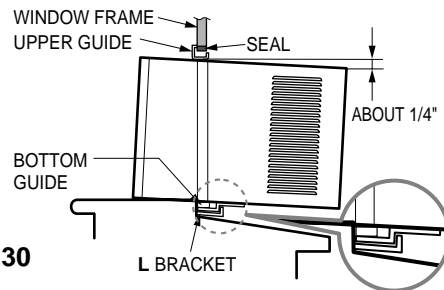

Figure 30
- b. While steadying the air conditioner, carefully bring the window sash down behind the upper guide of the air conditioner, as shown in Fig. 30.